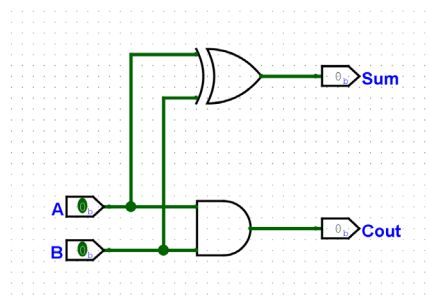

Fig 3.1 Logic diagram for half adder.
2. Use Logisim to simulate HA. First, draw the HA as shown in Fig 3.1 and then use the test vector as shown in Fig 3.2 to test the circuit.